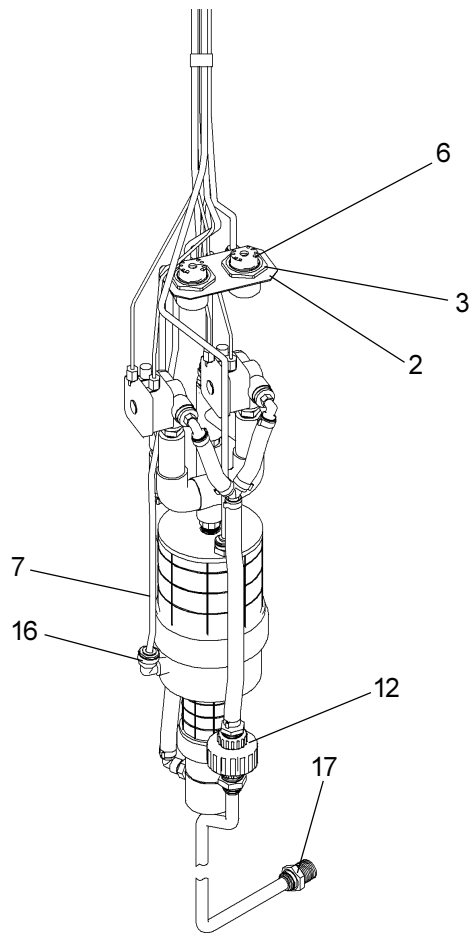

FIG. 4
- Remove the cleanout plug from the PVC column. Remove the valve assembly from the PVC column by carefully pulling up on the strap and connecting tubing at the same time. Pressure test the valve assembly for leaks. Check stream height from the bubbler. Stream height is factory set at 35 PSI. If supply pressure varies greatly from this, adjust the screw on the regulator (Item 13, Page 10, Fig. 4). Clockwise adjustment will raise stream and counter-clockwise adjustment will lower stream. For best adjustment stream height should be approx. 1-1/2" (38mm) above the bubbler guard.